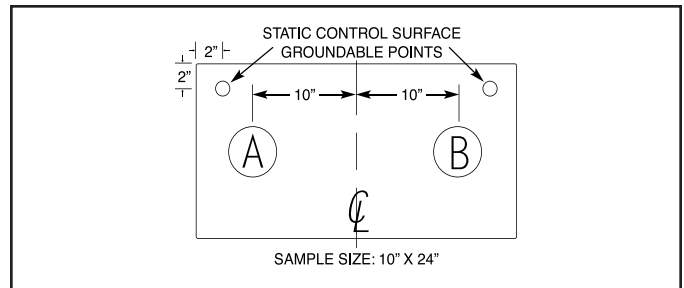

Figure 6. Material evaluation sample configuration
- A. Prepare a minimum of six samples of each material to be tested as shown in Figure 6.